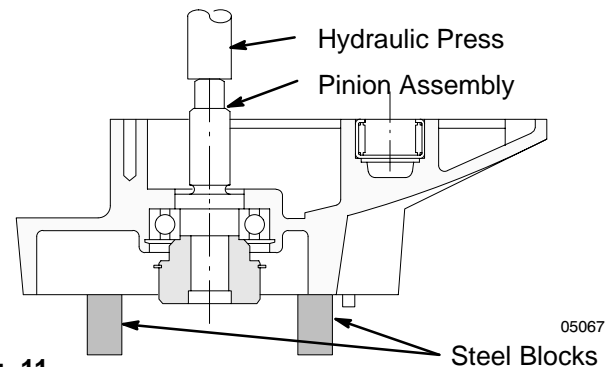

Fig. 11 05067
2. **Using a hydraulic press**, push on the front of the shaft (11f**) to force the pinion shaft assembly out of the housing (11a). See Fig. 11.
3. **Using a hydraulic press**, support the housing on blocks. Push on the front of the shaft (11f**) to force the pinion shaft assembly out of the housing. See Fig. 11.